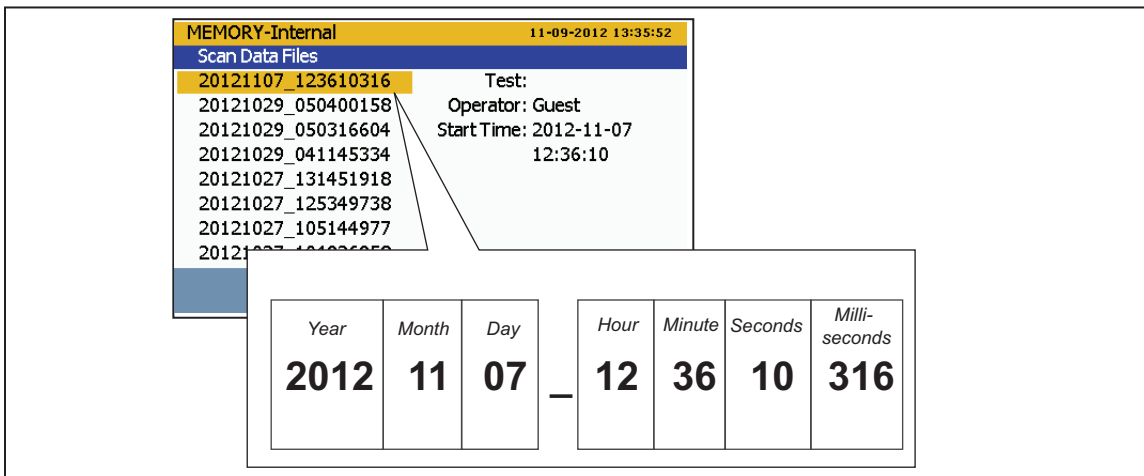

Figure 4-7. Scan Data File Name Convention
- e. Double-click on the **scan** folder to see scan data files or the **DMM** folder to see DMM data files. The data files are saved within a folder that was named with a timestamp of when the scan or measurement was recorded. This file naming convention is illustrated in Figure 4-7.